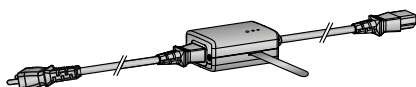

Figure 1
1. Insert power line of projector into Electrical Source Input Hole ( Figure 1 ).